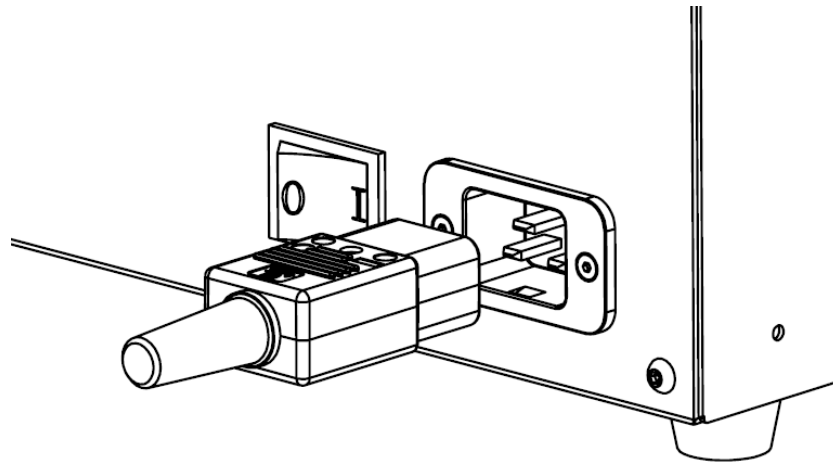

Figure 3-11 Power cord connection interface
Step1. Connect the control cabinet, and insert the power cord shape plug into the power cord connection port of the control cabinet (see Figure 3-11).